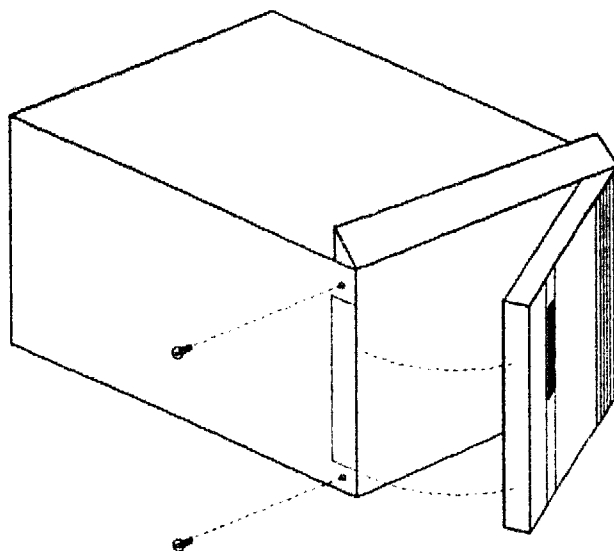

Figure 8-9.
3. Remove the square access panel on the rear of the unit. See Figure 8-9 (2).